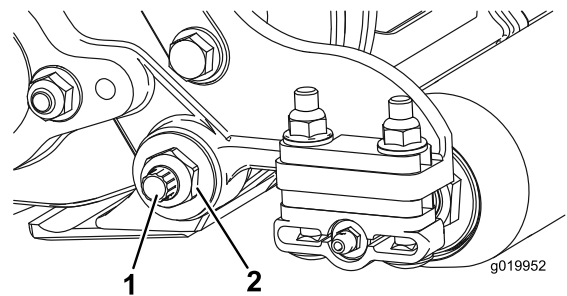
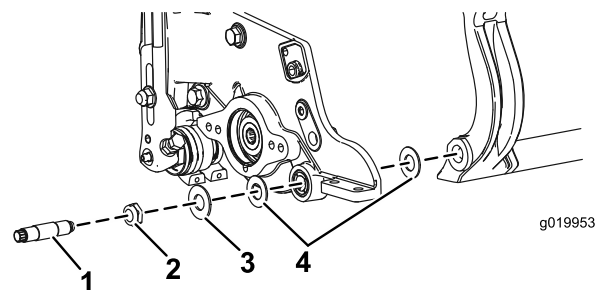
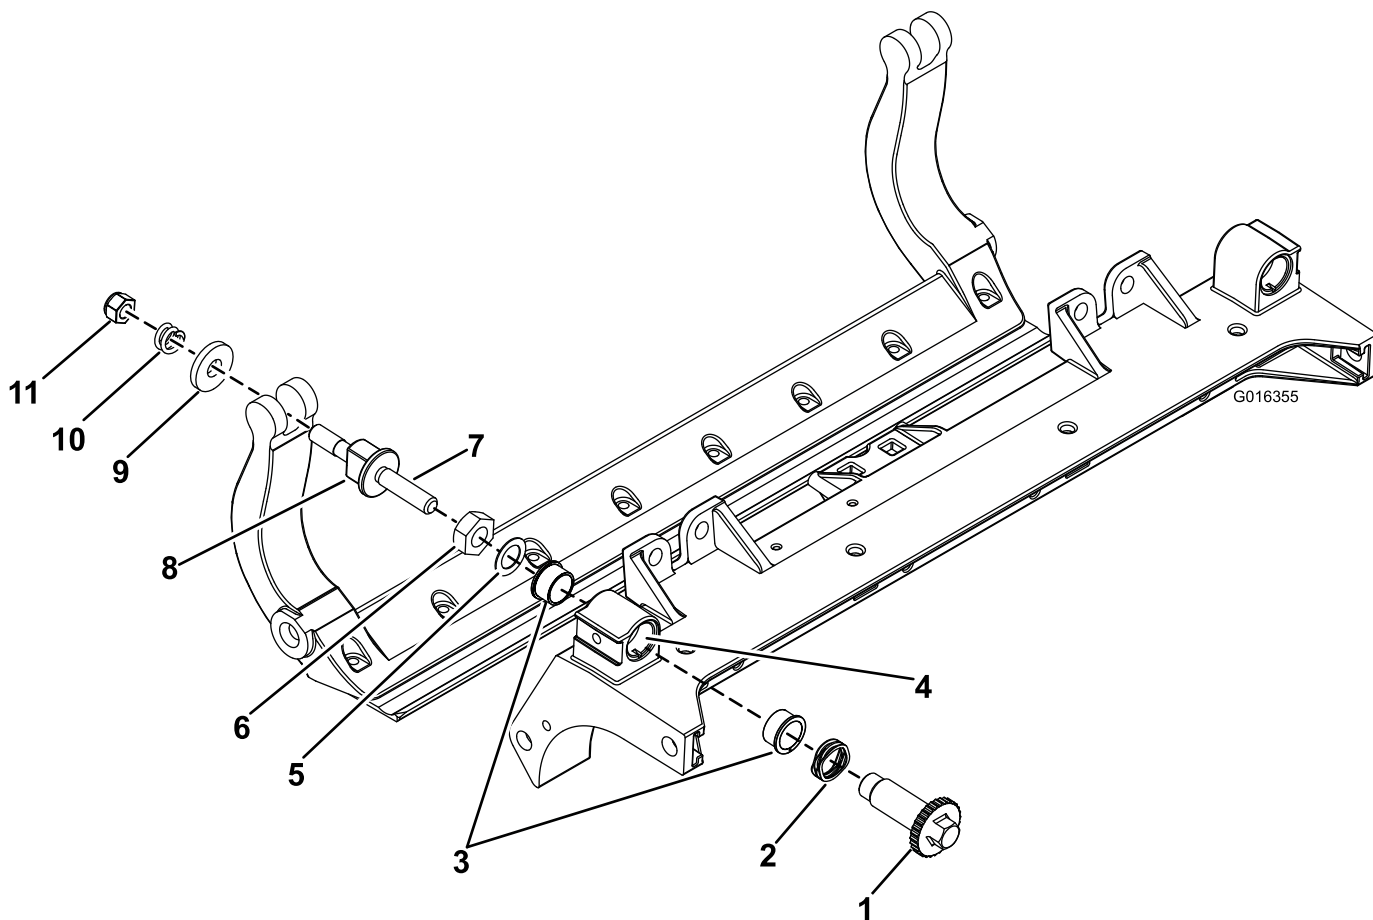

Figure 26
Figure 27
Figure 29
3. On each side of the machine, loosen the locknut securing the bedbar bolt (Figure 26).
4. Remove each bedbar bolt allowing bedbar to be pulled downward and removed from machine bolt (Figure 26). Account for 2 nylon and 1 stamped steel washers on each end of bedbar (Figure 27).
washer outside each of the nylon washers (Figure 27). Torque bedbar bolts to 27-33 (37-45 N-m). Tighten the locknuts equally, on each side, until the outer steel washers cannot be rotated by hand. Then, loosen the lock nuts until the outer steel washers just rotate by hand, yet the bedbar end play is removed.
1. Remove all parts (refer to *Installation Instructions* for HD DPA Kit Model No. 120–7230 and to Figure 29).
2. Apply Never Seize to the inside of the bushing area on cutting unit center frame (Figure 29).
3. Align the keys on flange bushings to the slots in the frame and install the bushings (Figure 29).
4. Install a wave washer onto the adjuster shaft and slide the adjuster shaft into the flange bushings in the cutting unit frame (Figure 29).
5. Secure the adjuster shaft with a flat washer and lock nut (Figure 29). Torque the lock nut to 15 to 20 ft-lb (20 to 27 N-m).
9. Secure the bedbar to each side plate with the bedbar bolts (nuts on bolts) and 6 washers. A nylon washer is to be positioned on each side of side plate boss. Place a steel washer outside each of the nylon washers (Figure 29). Torque bedbar bolts to 27-33 ft.-lb (37-45 N-m). Tighten the locknuts equally, on each side, until the outer steel washers cannot be rotated by hand. Then, loosen the lock nuts until the outer steel washers just rotate by hand, yet the bedbar end play is removed (Figure 27).